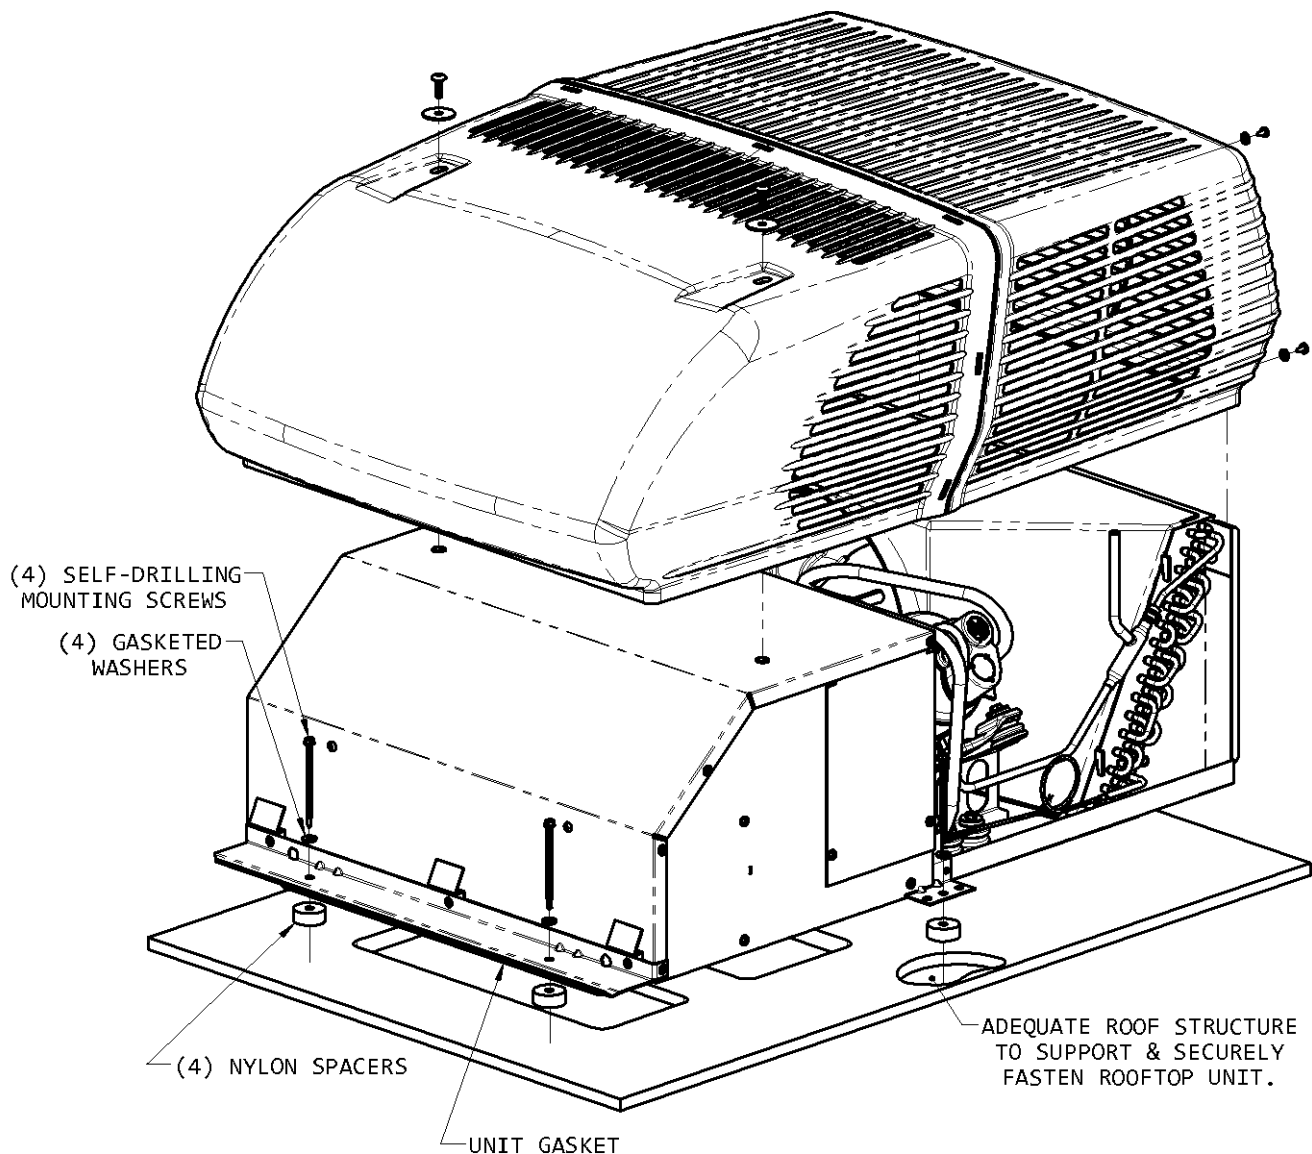

FIGURE 2
6. Apply silicone to the top and bottom face of the 4 provided spacers and locate under the front mounting brace and side brackets as shown in Figure 2.
7. Using the 4 provided self-drilling screws and gasketed washers, run the screws down through the mounting brackets, through the spacers and into the vehicle roof. Tighten screws just until the spacers pull down to the roof. Use care to NOT STRIP THE SCREWS. See Figure 2.